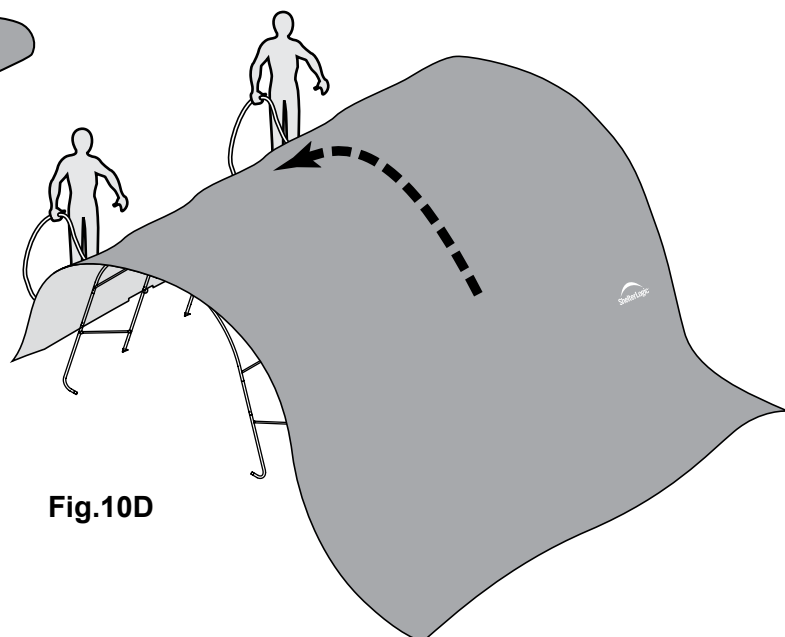

Fig.10D
**D.** Move to the other side of the frame and pull the cover over the frame with the rope. This may require two or more people. Fig. 10D.